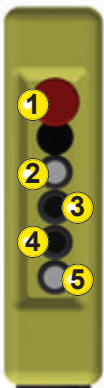

fig. 3.21
- 1- Make sure the emergency stop button is pulled out on the control pendant (see "1" in fig. 3.21).
- 2- Push in the UP button halfway to raise the load block at **first speed** (see "2" in fig. 3.21). To raise the load block at **second speed**, push in the UP button all the way.
- 3- Push in the DOWN button halfway to lower the load block at **first speed** (see "3" in fig. 3.21). To lower the load block at **second speed**, push in the DOWN button all the way.
- 4- Push in the FRONT button (see "4" in fig. 3.21) to move the trolley in toward the front of the unit (wall side). Release the button before the trolley reaches the end of the assembly.
- 5- Push in the BACK button (see "5" in fig. 3.21) to move the trolley out toward the rear (loading side) of the unit. Release the button before the trolley reaches the end of the assembly.